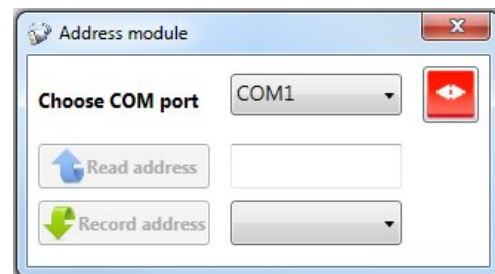

Figure 9. Configuring of "AM-11"
**“AM-11” modules are connected to TAN bus; each module shall have its unique address (address 1 is preset). Configuring of modules (address assignment, see Figure 9) and zones applying by modules is carried out using “Configurator 11” software.**